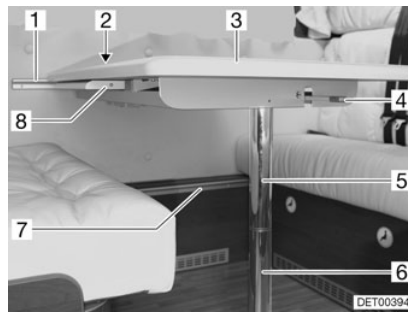
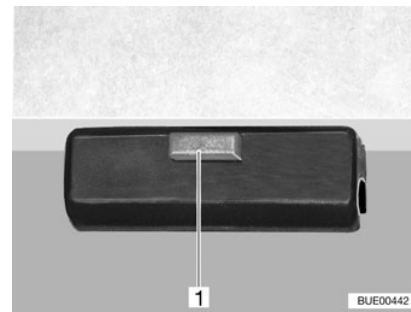

Fig. 27 Extend suspension table
Fig. 28 Suspension table with fold-out leg
- Release the locking lever (Fig. 27,4) underneath the table-top.
- Slightly lift the front of the table-top (Fig. 27,3) and pull it to the middle of the vehicle as far as it will go.
- The inserted table-top extension (Fig. 27,8) pivots upwards.
- Pull out the lower part of the support leg (Fig. 27,6) down and lay aside.
- Press the release knob (Fig. 28,1) on the lock (Fig. 27,2)
- Detach the suspension table from the upper attachment rail (Fig. 27,1).
- Hook the suspension table into the lower attachment rail (Fig. 28,7) and set it down onto the floor with the upper part of the support leg (Fig. 28,5).